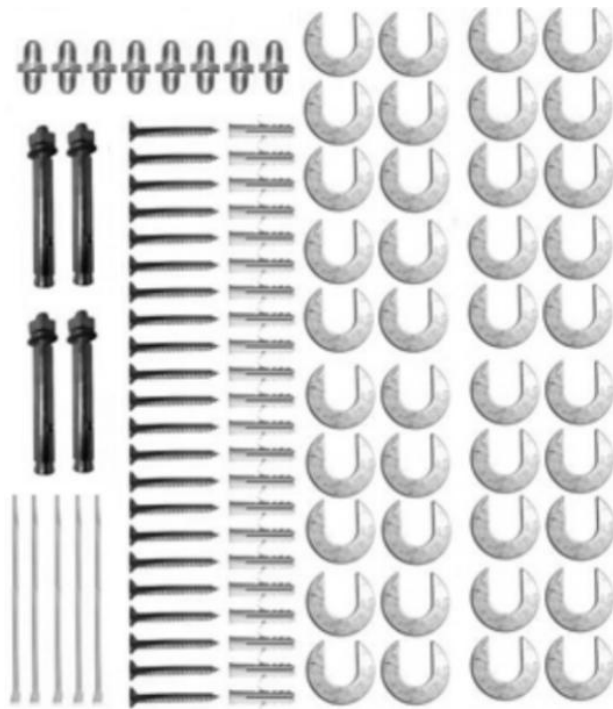

Fig. 7
4. Open the parts bag, check the parts according to the part list (See Fig.7).